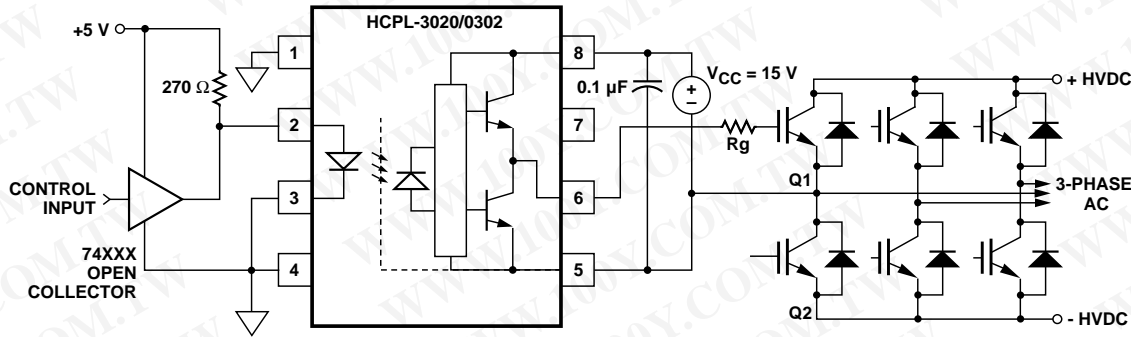
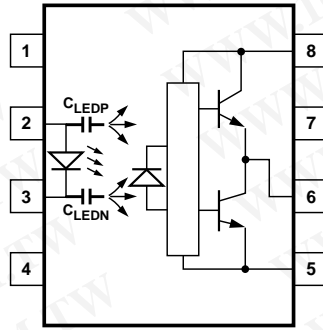
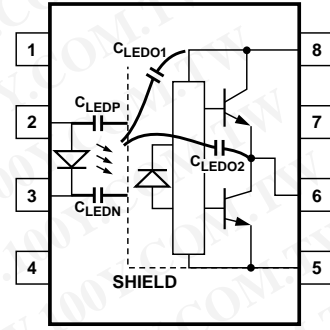

Figure 17. Recommended LED drive and application circuit for HCPL-3020 and HCPL-0302.
Figure 19. Optocoupler input to output capacitance model for unshielded optocouplers.
Figure 20. Optocoupler Input to output capacitance model for shielded optocouplers.
PC board directly above the IGBT) can eliminate the need for negative IGBT gate drive in many applications as shown in Figure 17. Care should be taken with such a PC board design to avoid routing the IGBT collector or emitter traces close to the HCPL-3020 or HCPL-0302 input as this can result in unwanted coupling of transient signals into the input
Step 1: Calculate R_g minimum from the I_{OL} peak specification. The IGBT and R_g in Figure 17 can be analyzed as a simple RC circuit with a voltage supplied by the HCPL-3020.
where $K_{I_{CC}} \cdot Q_g \cdot f$ is the increase in I_{CC} due to switching and $K_{I_{CC}}$ is a constant of 0.001 mA/(nC*kHz). For the circuit in Figure 17 with I_F (worst case) = 10 mA, $R_g = 57.5 \Omega$, Max Duty Cycle = 80%, $Q_g = 100$ nC, $f = 20$ kHz and $T_{AMAX} = 85^\circ\text{C}$:
Without a detector shield, the dominant cause of optocoupler CMR failure is capacitive coupling from the input side of the optocoupler, through the package, to the detector IC as shown in Figure 19. The HCPL-3020 and HCPL-0302 improve CMR performance by using a detector IC with an optically transparent Faraday shield, which diverts the capacitively coupled current away from the sensitive IC circuitry. However, this shield does not eliminate the capacitive coupling between the LED and optocoupler pins 5-8 as shown in Figure 20. This capacitive coupling causes perturbations in the LED current during common mode transients and becomes the major source of CMR failures for a shielded optocoupler. The main design objective of a high CMR LED drive circuit becomes keeping the LED in the proper state (on or off) during common mode transients. For example, the recommended application circuit (Figure 17), can achieve 10 kV/ μ s CMR while minimizing component complexity.
supplied by the LED, and it is not recommended for applications requiring ultra high CMR_1 performance. The alternative drive circuit, which likes the recommended application circuit (Figure 17), does achieve ultra high CMR performance by shunting the LED in the off state.